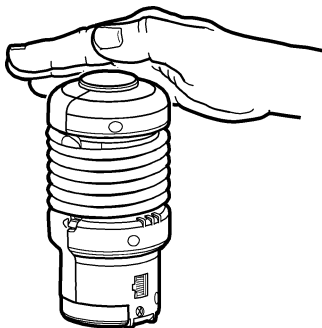

Figure 2.18: VDR Tool, Trigger Button Activation
- 7 Press and hold the VDR trigger button for 1 second to activate the VDR tool (Figure 2.18). The indicator light on the top of the VDR tool blinks several times (for up to 30 seconds) and then remains lit constantly to indicate the tool is ready for recording.
- 8 Drive the vehicle and press and release the VDR trigger button each time the symptom occurs (Figure 2.18). Be aware of the following: